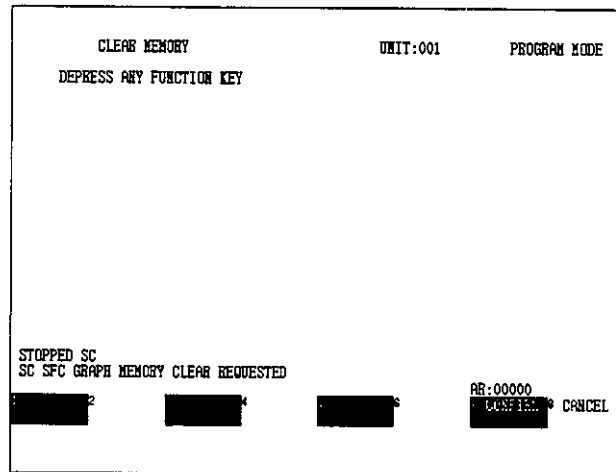

Figure 6.15
- 7) The screen shown in *Figure 6.15* will be displayed depending on the Label Key that was input. (See Note (5))